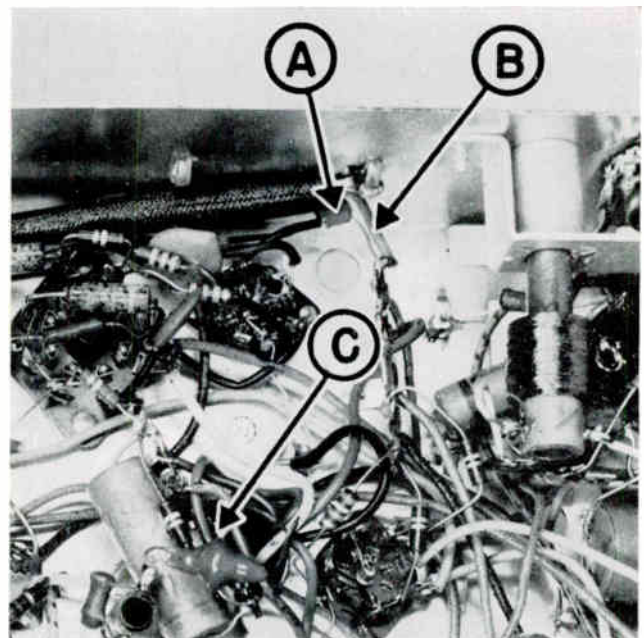

Figure C-4
3. Dress C244 close to rear of chassis as shown at A in figure C-4. Dress lead from volume control (R290A) as shown at B. Pull all excess CRT base connector leads through hole C. Dress excess CRT connector leads away from the audio amplifier stages. Disconnect blue CRT base connector lead from terminal board TB11-2 and connect to pin 6 of V218. Disconnect jumper wire between pin 6 of V218 and TB11-2. Disconnect R254 and R256 from pin 4 of V211 and connect them to TB11-2. Connect R304, a 100K resistor between pin 4 of V211 and TB11-2. Connect C245, a .1 mf, 600V condenser from TB11-2 to ground near pin 1 of V211. Replace R255, connected between pin 5 of V211 and ground, with a 680K resistor.